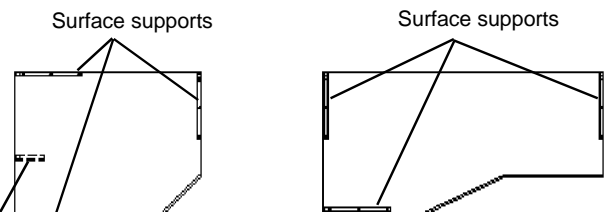

Figure 2
**NOTE:** All Corner Hook-on Worksurfaces require three supports, one installed to each connecting side and the third in the corner (Corner post). See **Figure 2**.